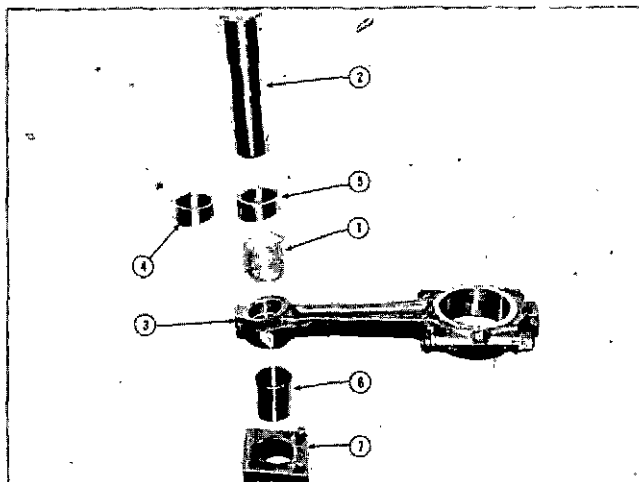

Fig. 1-8-8, V40171. Installing piston pin bushing
1. To install standard size bushings in rods, on Detail 2 of ST-870 assemble Detail 5 sleeve, Piston Pin Bushing and Detail 6 guide sleeve. Fig. 1-8-8.